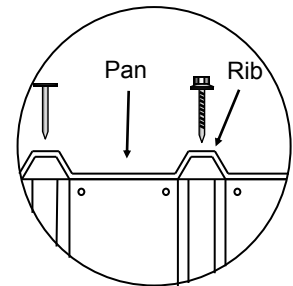

fig.2
- Using 4 x 50mm Clouts, pre-drill and nail the Roof Sheets to the Top Plates through the ribs, at each corner, ensuring ribs on the Roof Sheets line up with ribs on the Wall Sheets (**fig.2**).